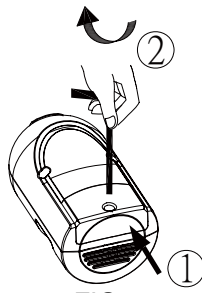

FIG. 1c
- Refit the cover, and fasten the screw clockwise (FIG. 1c).